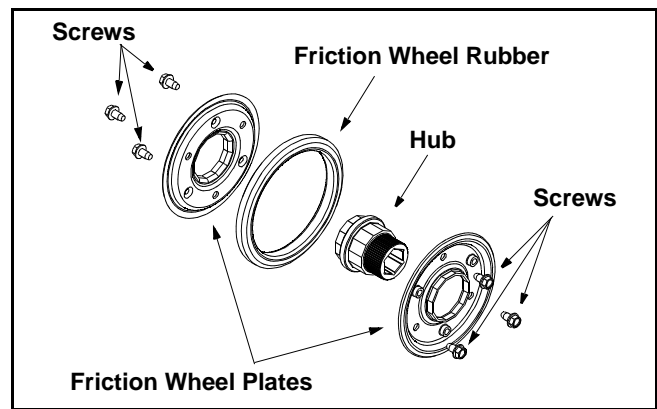

Figure 21
- Remove the six screws from the friction wheel assembly (three from each side). Remove the friction wheel rubber from between the friction wheel plates. See Figure 21.